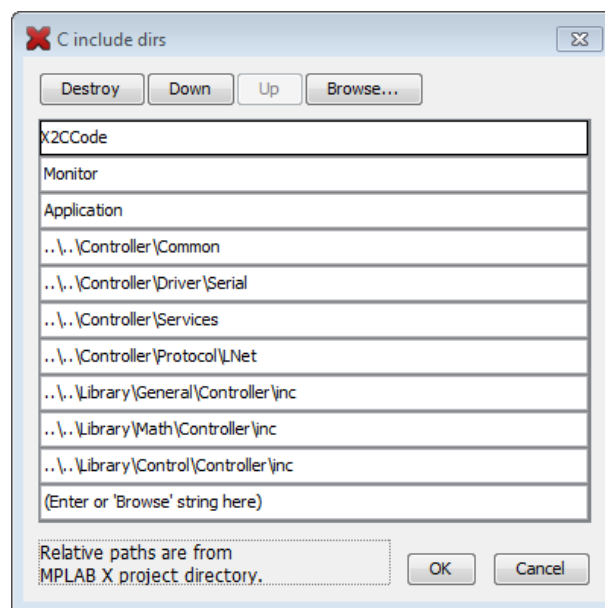

Figure 4: Default path variables for the include files
3. In the case the demo application is copied/moved to a different location, the include paths have to be adapted. To ensure the compiler uses the correct path variables right click on the **Projectname** → **Properties** → **XC16 Global Options** → **xc16-gcc**. In the drop down menu **Option categories** choose **Preprocessing and messages**. Click on the dots beside *C include dirs*. There are relative paths to the needed include files listed as seen in Figure 4. Correct the links by double clicking on the path variables.